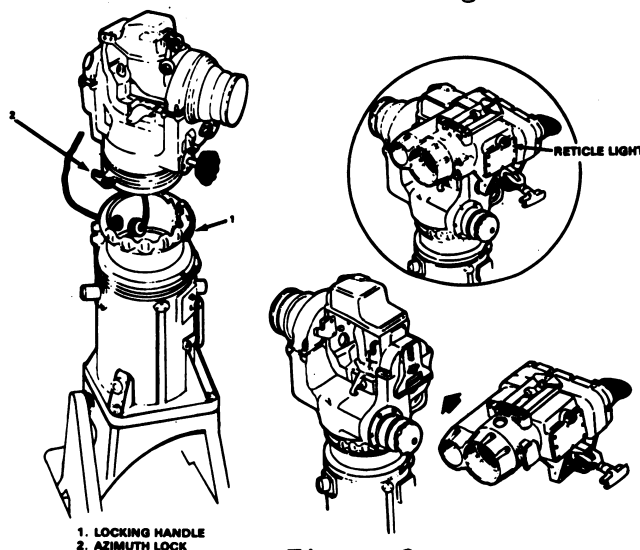

Figure 2
(3) Place traversing unit on pedestal mount and close the coupling clamp locking handle.
(4) Aline the indexing marks on the connector on the coil cord with the index mark on the pedestal mount receptacle.
(5) Connect the coil cord to the receptacle inside the pedestal mount.
(6) Lock the elevation lock.
d. Stowing the Daysight Tracker (fig. 2).
(1) Release the azimuth lock, if locked, on the traversing unit and rotate it about 45° to the left.
(2) Pick up the tracker using the holes in the mounting bracket.
(3) With the locking latch assembly all the way down, aline the top of the tracker mounting bracket over the top of the boresight plate on the traversing unit and lower the tracker into position against the boresight plate.
(4) Lift up on the locking latch assembly to secure the tracker. (Do not let go until you are sure it is secure.)
(5) Rotate the traversing unit back to the front and lock the azimuth lock.
(6) Insure that the reticle light switch is OFF.